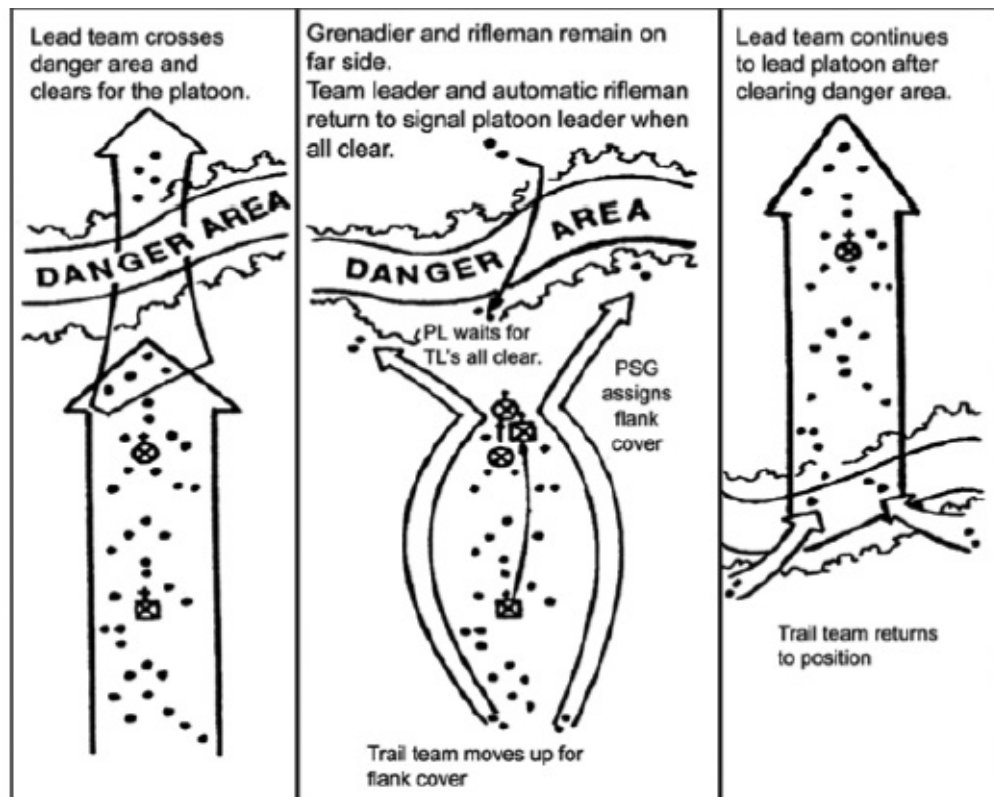

Figure 2-4. Linear danger area
- (1) ***Linear Danger Area*** (LDA, Figure 2-4) Actions for a Squad: